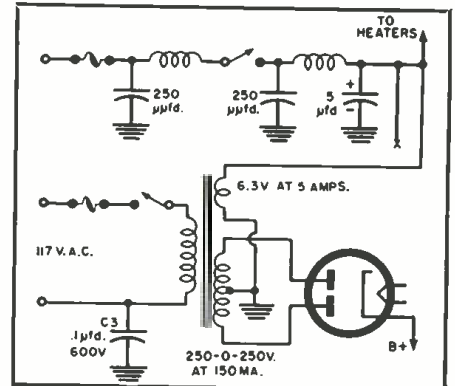

Fig. 2. Receiver conversion by the second method described by author in the text.
**Method Two:** Remove the vibrator and vibrator transformer. Next, install a standard power transformer, using the 6.3-volt winding for the heaters and the high-voltage winding for "B+," as indicated in Fig. 2. Don't forget that if the radio uses an OZ4, the voltage each side of the center tap must be at least 215 volts r.m.s.